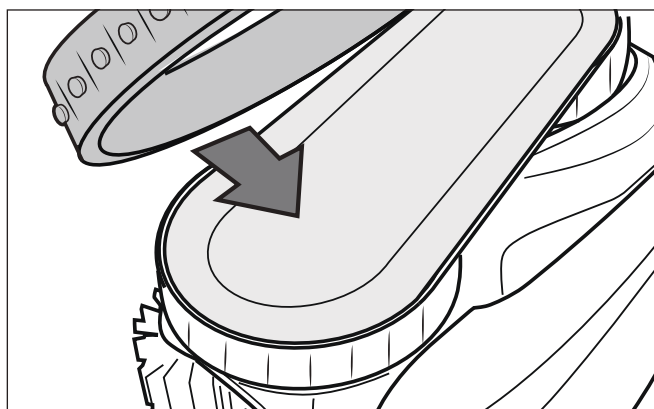

Figure 27. Track Replacement Orientation
3. Replace the track on the wheel by positioning the rib toward the body of the cleaner (Figure 27).